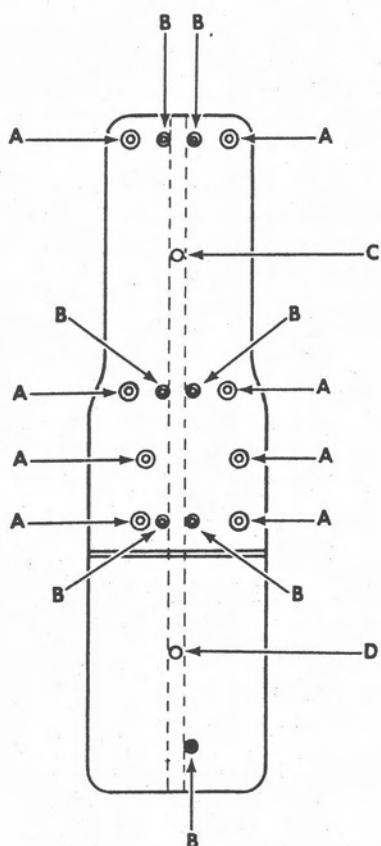

Figure 2. Backboard.
2.1 Perform the following steps to install a paystation. (See figures 2 and 3.)